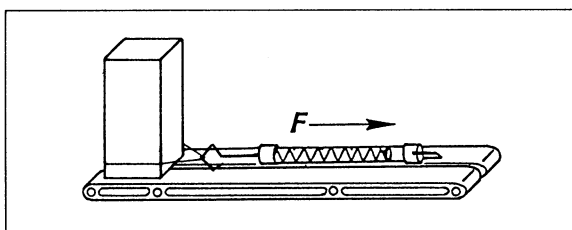

Fig. 2 Sliding friction where the surface area in contact has been reduced because aluminium cuboid is standing on end.
4. Place the cuboid upright. ► Fig. 2